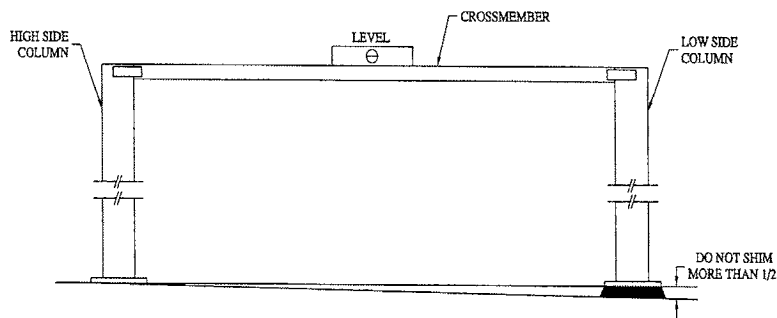
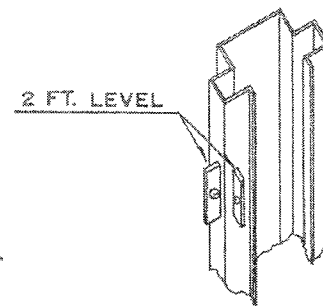
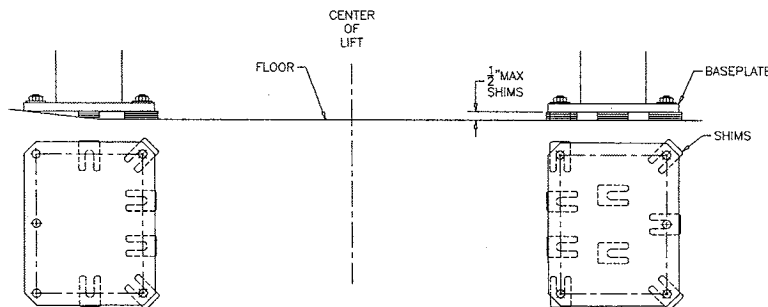

Figure 13
Figure 14
Figure 15 - Shims
1. Using a 4ft. level on top of the crossmember, determine which column is higher. Refer to **Figure 13**.
2. Using a 2ft. level on the sides of the high column, ensure that the column is level in the vertical position (**Figure 14**). Use shims under the column baseplate to hold the column level. Ensure that the base plate is completely supported by shims where it does not contact the floor (**Figure 15**).
5. Reconfirm that the column is level front to rear and side to side (**Figure 14**). Add or remove shims as required.
1. Using a 4ft. level on top of the crossmember (**Figure 13**) and a 2ft. level on the low side column (**Figure 14**), shim underneath the baseplate until the crossmember and column are level. Ensure that the baseplate is completely supported by shims where it does not contact the floor (**Figure 15**).
4. Reconfirm that the column is level front to rear and side to side (**Figure 14**). Add or remove shims as required.